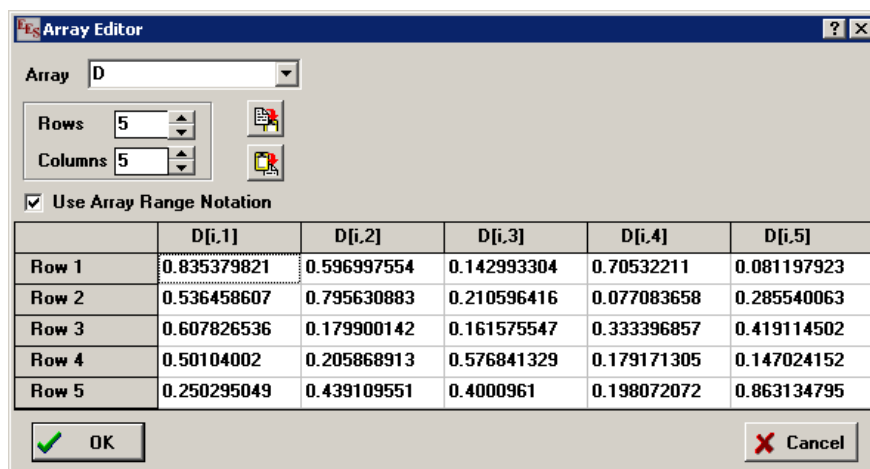

Figure 1-88: Arrays Editor.
Select Array Editor from the Edit menu. Name the array (D) and choose the right number of rows and columns (5 and 5). Copy the data from Excel and select the Paste button () to place the data into the Arrays Editor, as shown in Figure 1-88.